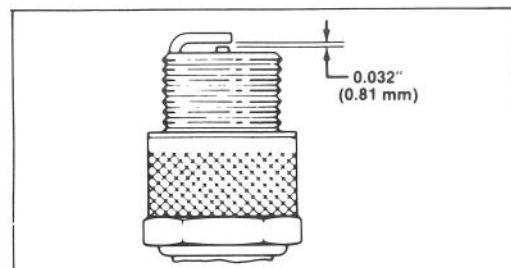

Figure 12
3. Set air gap at 0.032" (0.81 mm) (Fig. 12). Install correctly gapped spark plug and gasket seal. Tighten plug firmly to 10 ft-lb (13.6 N·m).